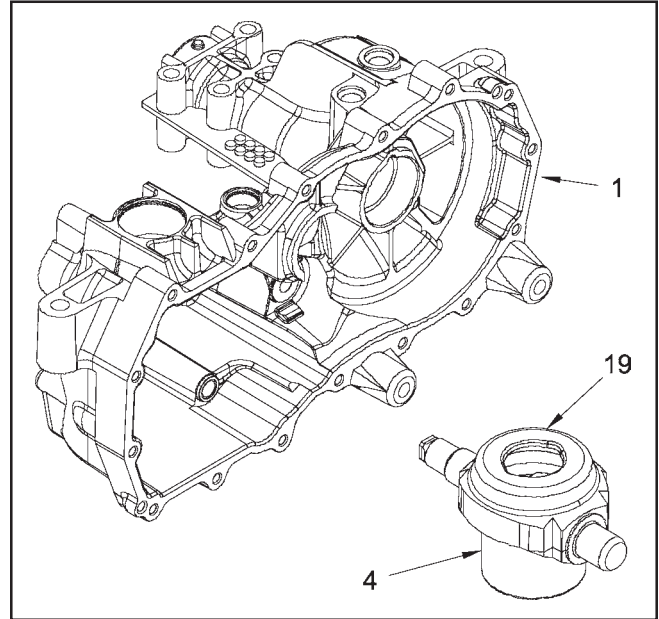

Figure 11
7. **(See Figure 11)** Remove the swashplate (19) and pump cylinder block (4) as one assembly. NOTE: Removal will be aided by applying a small amount of pressure on the trunnion mounted swashplate towards the center section. Also note that the control arm (23, page 26) may be loosely assembled at this point to assist in swashplate removal. While gently removing the swashplate and block assembly, keep the block face flush with the center section to minimize damage to the running surface.